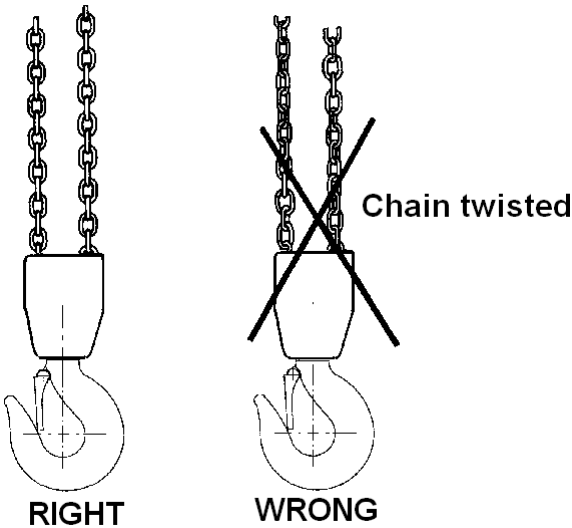

Fig 3 The chain must not be twisted
- The load chain must not be kinked or twisted. With multi-fall chain blocks there is a risk of the chain twisting if the bottom hook assembly ends up looped through the chain sling – usually during refitting or moving the chain block between work stations. See Fig 3.